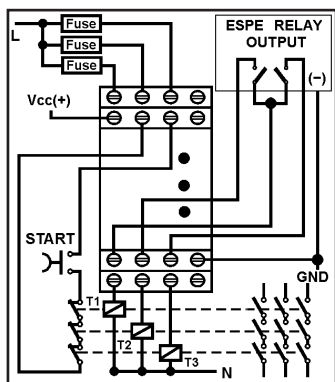

Fig. 8: ESPE: 2 uscite a relè a 2 fili /
- ESPE with two relay two-wires outputs: connect one wire of each output channel to the S21 terminal and the other outputs to the S11 and S22 terminal, leaving S12 not connected (fig. 8, max. Safety cat. 4).